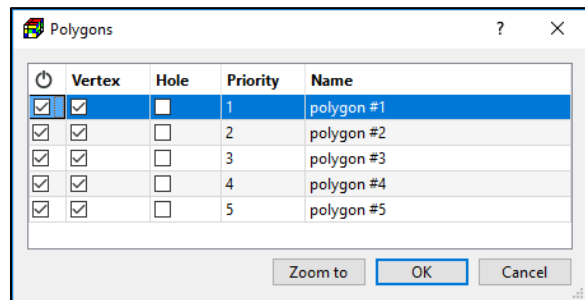

Figure 24. The Polygons dialog box
- **Manage Polygons:** Select this item to manage properties of existing polygons: You can use the Polygons dialog box (Figure 24) to manage the following polygon properties. To open this dialog box, right-click on one of the vertices, then select Manage Polygons from the popup menu.
¹⁶ The priority number or the hole settings (see Figure 24) of that polygon are ignored in this case.